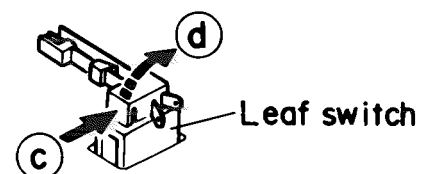

Fig.2-12
■ Leaf switch (Fig.2-12)
1. Press the leaf switch in the direction of the arrow (c) and then remove it in the direction of the arrow (d) referring to Fig.2-12.